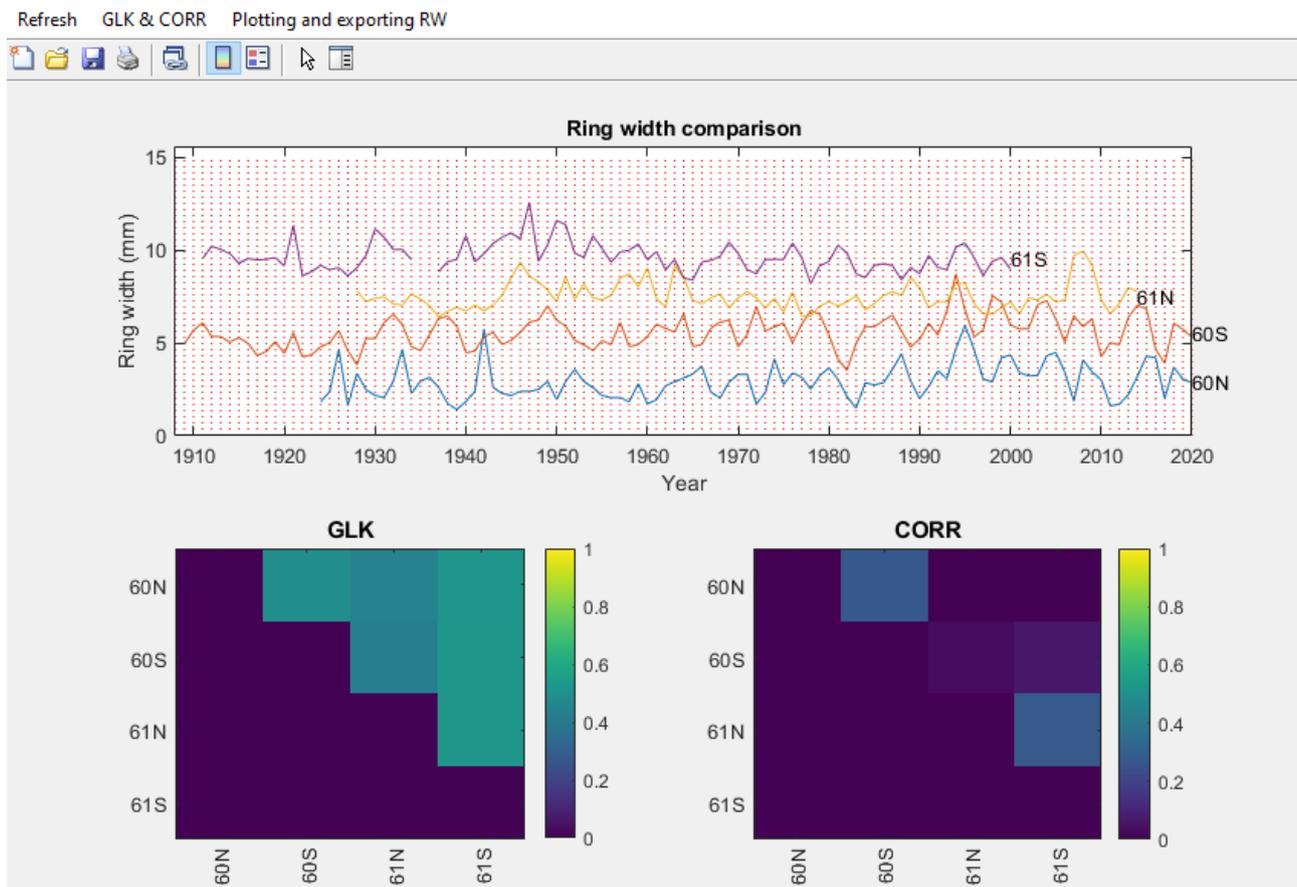

Figure 2: Screenshot of the Core Comparison module, note that the ring width series are shifted for easy visual comparison
- Then indicate the dark (air) and white references (Fig. 2), as many times as indicated in the Excel file. The average will be used for converting. Double click after each selection.